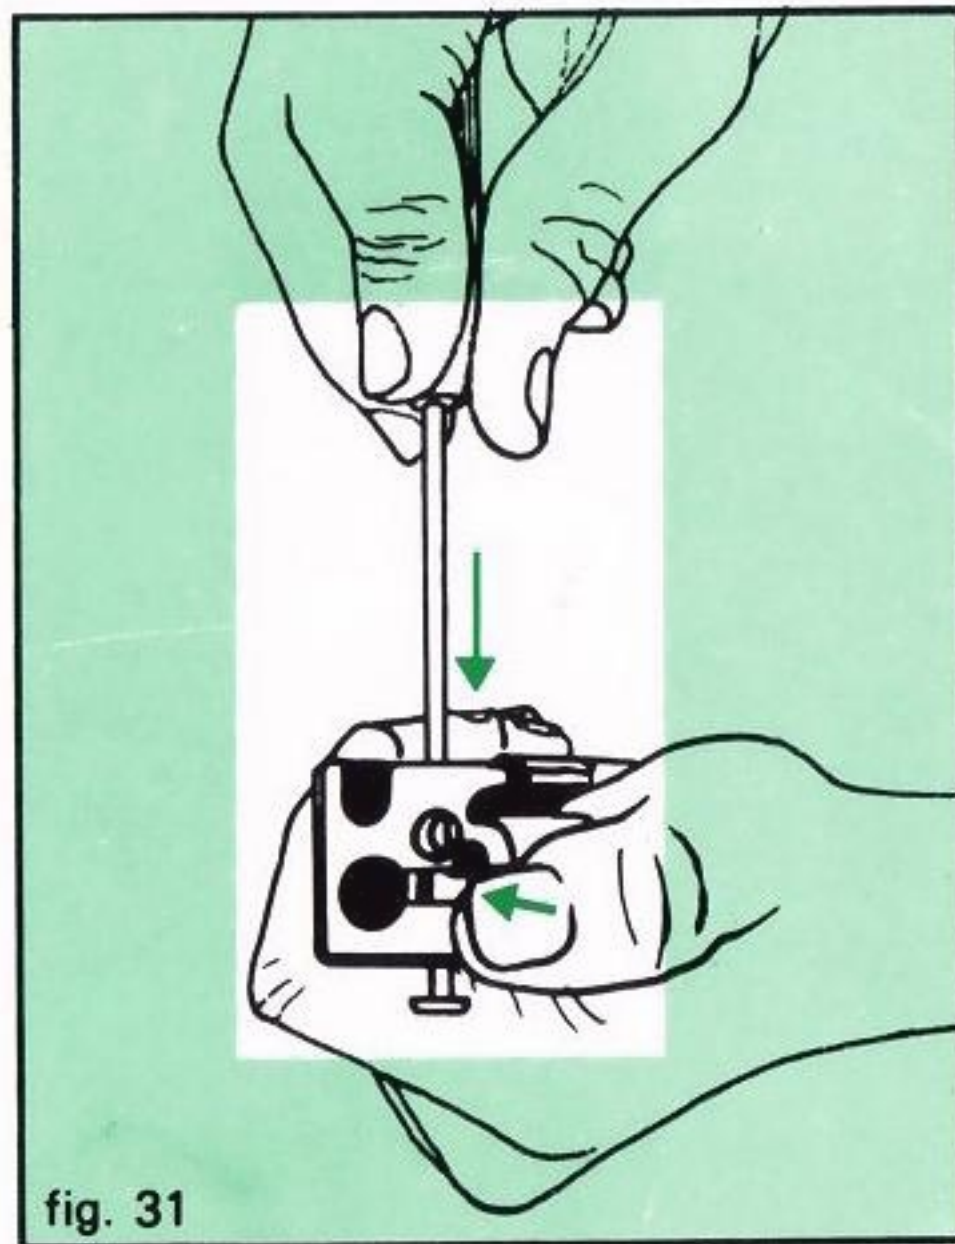

fig. 31
1. Using a suitable drift pin (1/8" to 5/32" dia.) push out extractor retaining pin from its shank end holding finger over blocking latch keep spring from jumping out (fig. 31), then carefully remove blocking latch with spring.